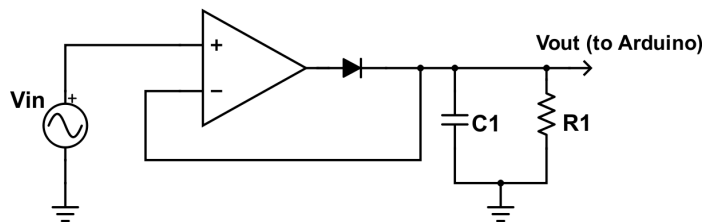

Figure 3: Smoothing Circuit based on diode and RC discharge. The time constant = the smoothing window:  $\tau = R_1 C_1$ .
**Hardware Solution:** Alternatively, there's also a hardware solution to smoothing; see Figure 3. The diode allows the capacitor  $C_1$  to charge up to the maximum of the input voltage  $V_{in}$ . The diode will stay forward biased, allowing current to flow, until the voltage across  $C_1$  equals the maximum input voltage. The role of the op-amp is to make sure the capacitor charges to the actual max of the input voltage; Without the op-amp we'd only charge up to the max input voltage minus a diode drop, which may be a significant amount, e.g. 0.7 V out of  $\approx 2$  V dynamic range. The role of the resistor is allow the circuit to forget what's happened in the distant past; the peak detector doesn't "hold" or "remember" the peak value forever. Instead, the resistor  $R_1$  allows the capacitor to discharge with a time constant  $\tau = R_1 C_1$ . The time constant can be thought of as the smoothing window time, the mathematical doppelganger to the choice of  $L$  in the software solution. The hardware solution is really easy to wire, and really easy to set the smoothing time constant.